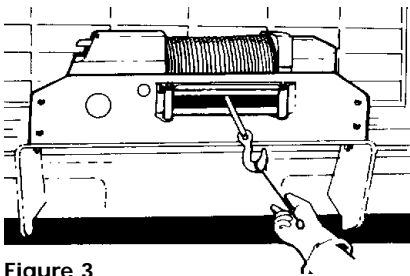

Figure 3
- KEEP CLEAR OF WINCH WIRE ROPE AND HOOK WHEN OPERATING WINCH. NEVER put your fingers through the hook when reeling in or out the last few feet of rope near the hook. If your finger should become trapped in the hook, you could lose your finger. Use the HANDSAVER BAR (Figure 3) to guide the hook within the last few feet. Never guide a wire rope onto or off the drum with your hand.
- Your Husky 10 winch wire rope has a ten-foot red "safety stripe" on each end. The "safety stripe" at the end of the wire rope that attaches to the drum warns you that the wire rope is almost completely paid out. DO NOT use the winch for this last ten feet of wire rope since the wire rope end fastener will NOT support a heavy load. The "safety stripe" at the hook end of the wire rope warns you that the wire rope is almost rewound. ALWAYS USE THE HANDSAVER BAR when handling the hook (Figure 3). As you use your winch, the red paint will wear off due to normal wear. When this happens, you should renew the red paint as it is a safety feature of the winch.